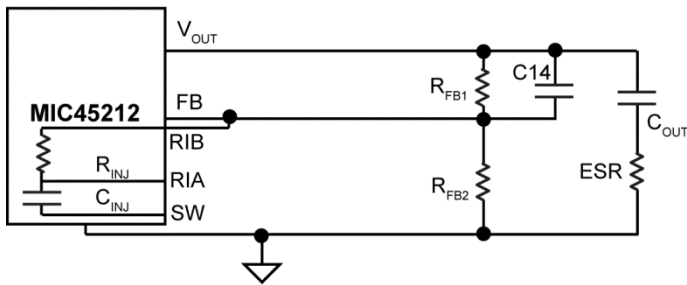

Figure 10. Internal Ripple Injection at FB via RIB Pin
2. Virtually no or inadequate ripple at the FB pin voltage due to the very-low ESR of the output capacitors, such as the case with ceramic output capacitor. In this case, the V_{FB} ripple waveform needs to be generated by injecting suitable signal. MIC45212 has provisions to enable an internal series RC injection network, R_{INJ} and C_{INJ} as shown in Figure 10 by connecting RIB to FB pin. This network injects a square-wave current waveform into FB pin, which by means of integration across the capacitor (C_{14}) generates an appropriate sawtooth FB ripple waveform.